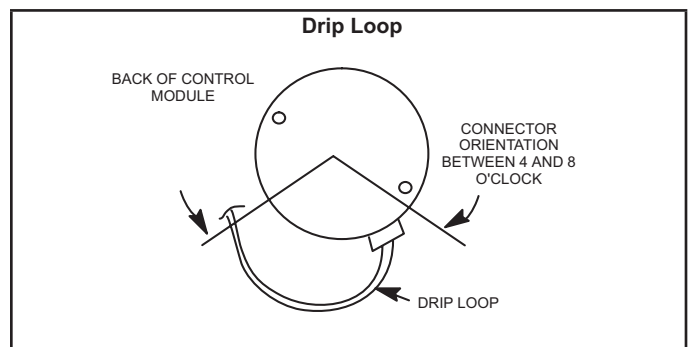

FIGURE 12
- 5 - The electrical connectors of the motor should be facing down to form a drip loop (FIGURE 12). This will direct moisture away from the motor and its electric connections on the motor.